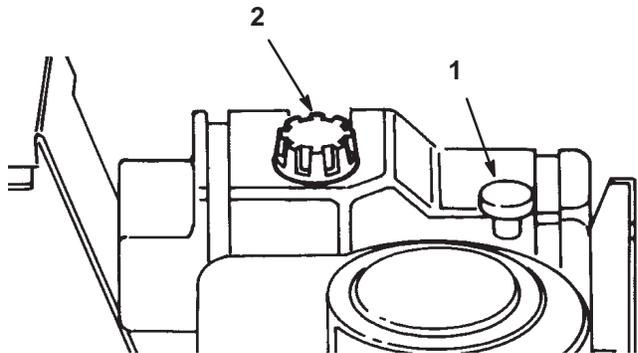

Figure 10
- Clean around the oil dipstick (Fig. 10) so dirt cannot fall into the filler hole and damage the engine.
- Unscrew the oil dipstick and wipe the metal end clean (Fig. 10).